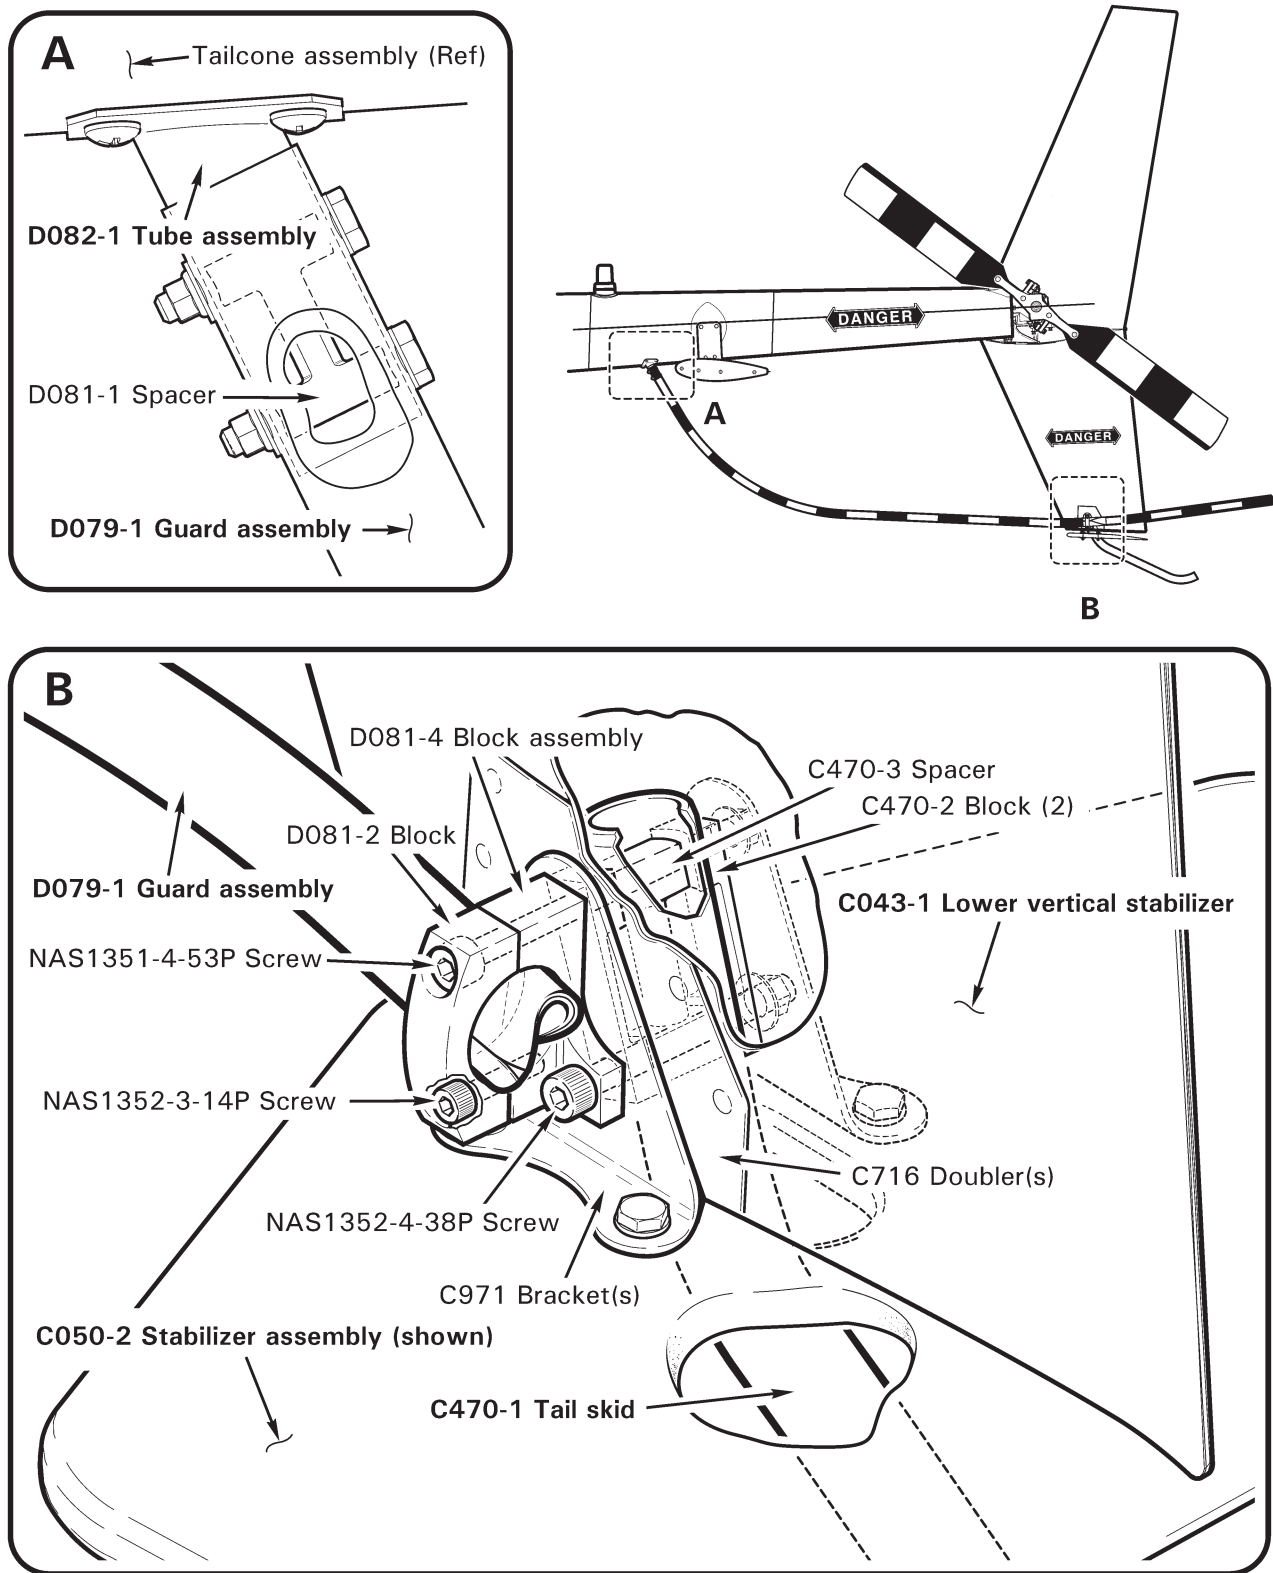

FIGURE 53-8 EMPENNAGE – TAIL ROTOR GUARD
1. Refer to Figure 53-8. Loosen two (forward) fasteners securing D081-2 block and D079-1 guard assembly to C043-1 lower vertical stabilizer.
1. Refer to Figure 53-8. Loosen two (forward) fasteners securing D081-2 block to C043-1 lower vertical stabilizer, if not previously accomplished. Insert D079-1 guard assembly aft through blocks.
2. Refer to Figure 53-8. Using plastic scraper, remove sealant around edges where C050-2 or G950-2 horizontal stabilizer assembly brackets attach to C043-1 lower vertical stabilizer assembly doublers. Remove horizontal stabilizer assembly.
1. Refer to Figure 53-8. Position C050-2 or G950-2 horizontal stabilizer assembly on C043-1 lower vertical stabilizer assembly and install tail skid per § 53-90.
1. Refer to Figure 53-8. Support D079-1 guard assembly. Remove hardware securing D081-2 block to C043-1 lower vertical stabilizer assembly and remove block.
1. Refer to Figure 53-8. As required, install C470-3 spacer inside C470-1 tail skid wet with epoxy primer. Position tail skid inside C043-1 lower vertical stabilizer, position D081-4 block assembly and install hardware securing block assembly to stabilizer but do not torque at this time.